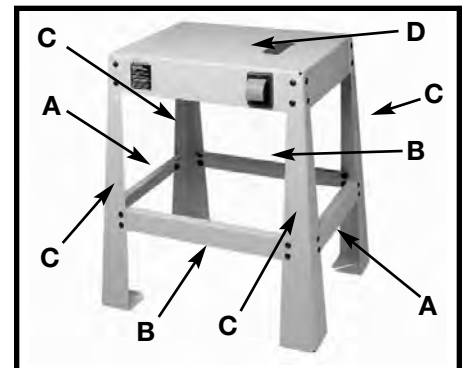

Fig. 6
1. Attach the two short lower braces (A) Fig. 6, and the other two long lower braces (B) to the four legs (C), using the sixteen $\frac{5}{8}$ " carriage bolts, flat washers, lockwashers, and hex nuts. **NOTE:** Hand tighten the hex nuts for future adjustments.
2. Attach the top shelf (D) to the legs, using the remaining carriage bolts, flat washers, lockwashers, and hex nuts. **NOTE:** Hand tighten the hex nuts for future adjustments.